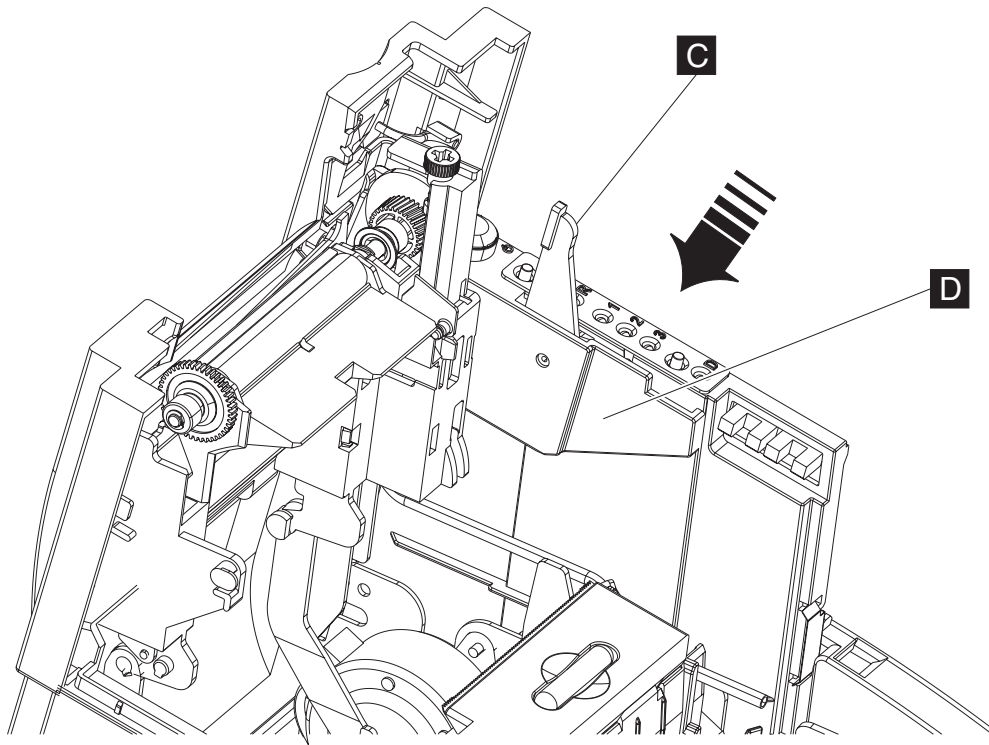

Figure 10. Installing the logic card
5. Insert the logic card (**D**), and press down on the blue lever (**C** in Figure 10) to lock the card into the correct position.